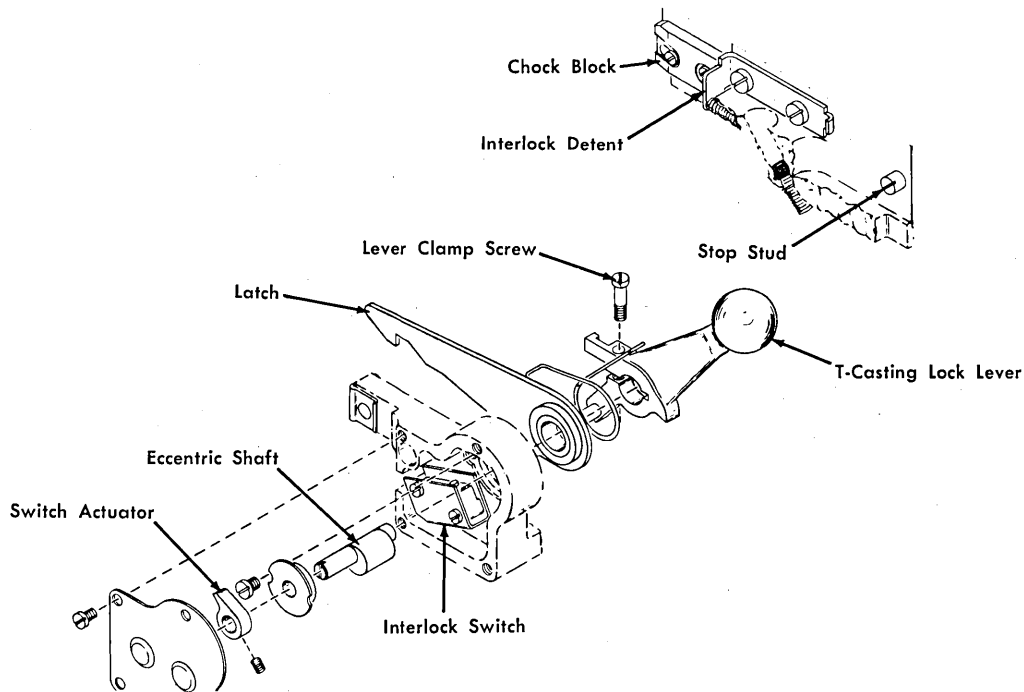

Figure 4-32. T-Casting Latch
Remove the interlock-switch cover. Check the adjustment of the T-casting latch (Figure 4-32).
- a. Loosen the chock block (see Figure 4-32) on the T-casting to obtain the vertical adjustment.